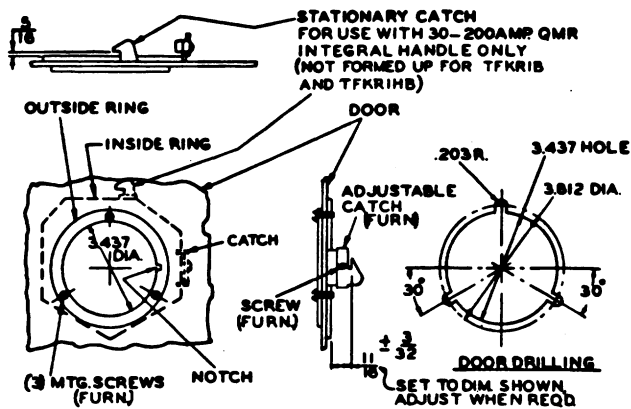

Figure 11.
**NOTE:** For vertical mountings, see Figures 11–14. For horizontal mountings, rotate the door drilling and interior door ring 90° counterclockwise.
- F. Adjust sliding interlock catch for circuit breakers, if desired, per Figures 11–13, and tighten with furnished screw.